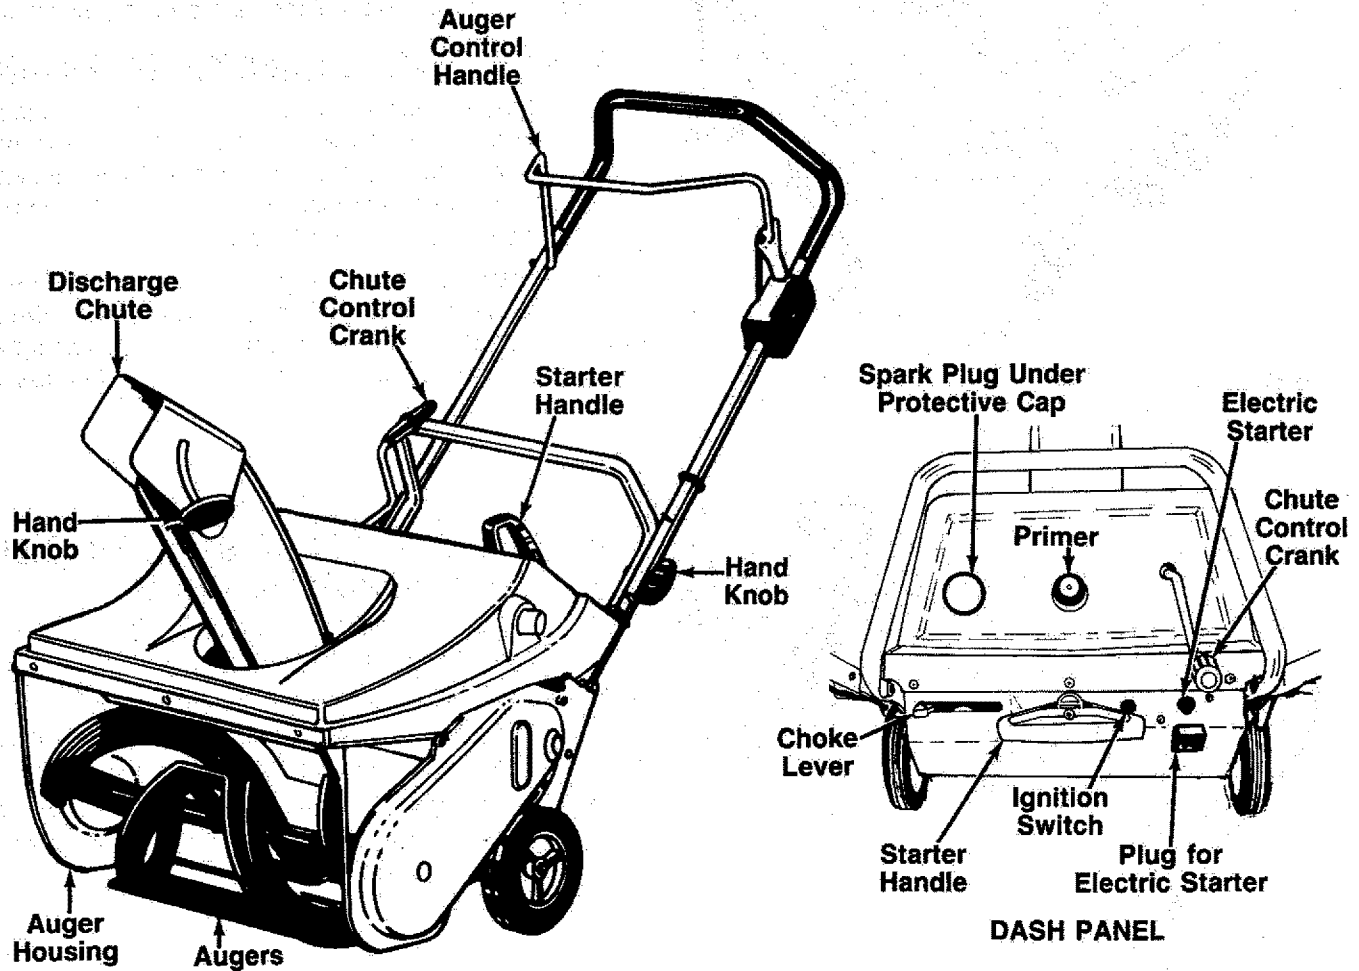

FIGURE 4.
- Pry off the protective plastic cap from the dash panel. Refer to figure 4.